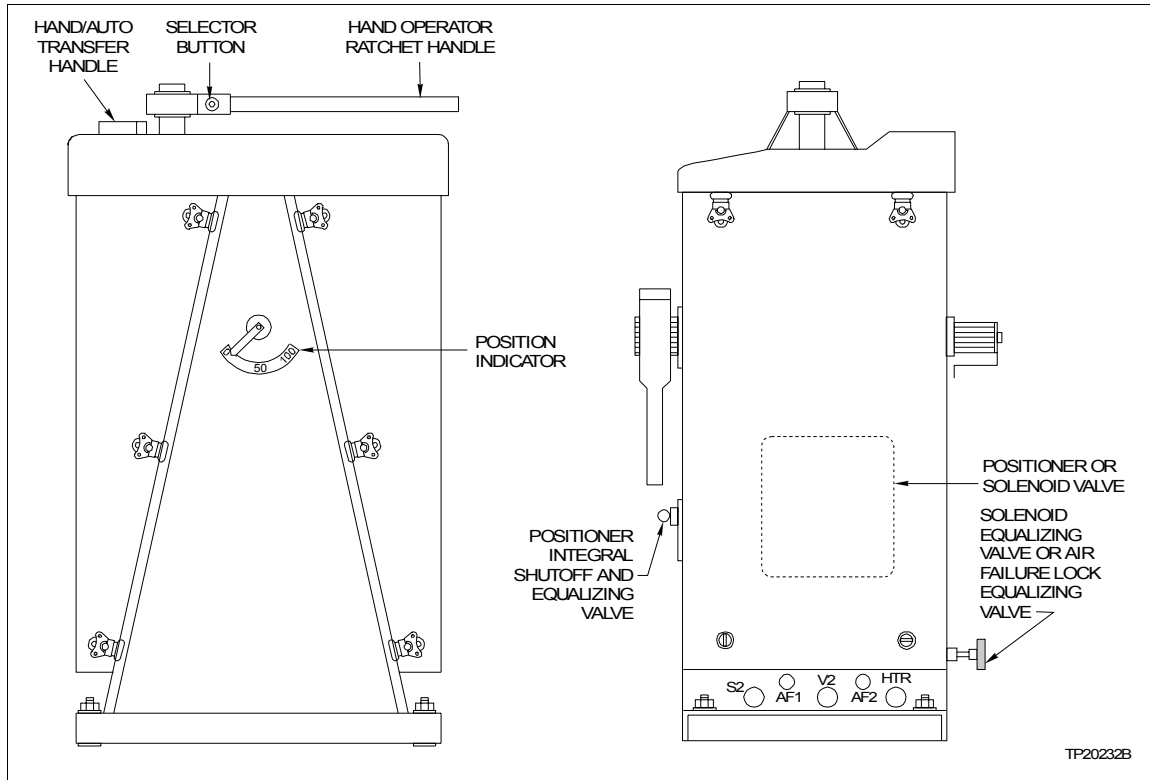

Figure 5-2. Operating Controls - Types UP3 and UP4 Actuators
**NOTE:** Refer to Figure 5-2.